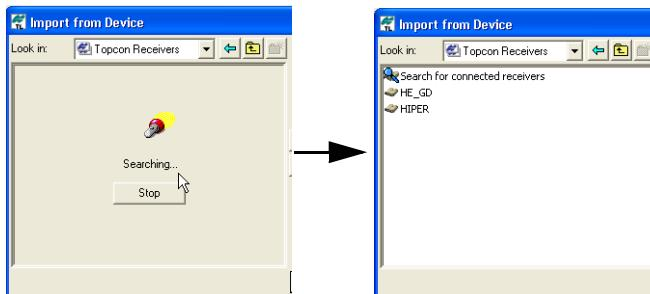

Figure 2-7. Search for Topcon Receivers
3. The program automatically searches for Topcon receivers connected to the computer ports (COM and USB). When finished all receivers connected to the computer ports (Figure 2-7) display.